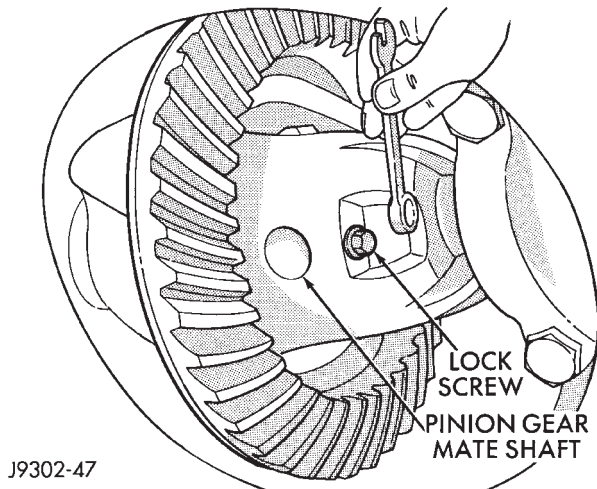

Fig. 6 Mate Shaft Lock Screw
(4) Remove the pinion gear mate shaft lock screw (Fig. 6).